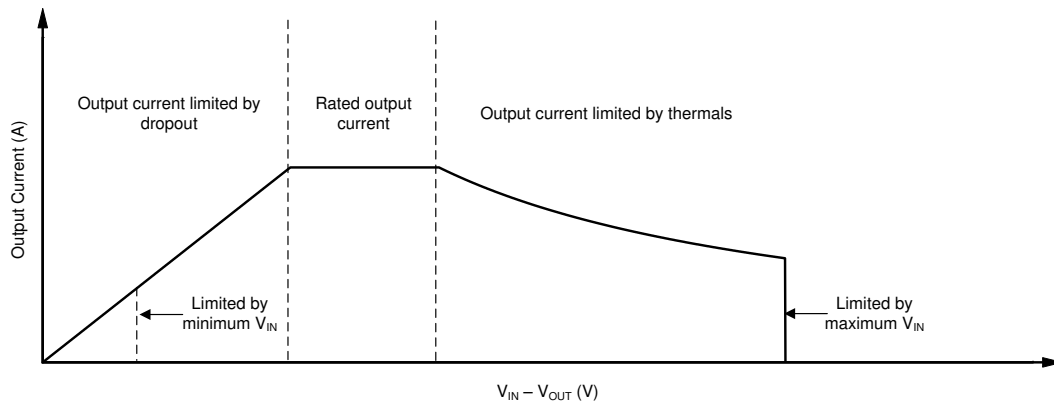

图 8-3. Region Description of Continuous Operation Regime
The operational area of an LDO is limited by the dropout voltage, output current, junction temperature, and input voltage. The recommended area for continuous operation for a linear regulator is given in 图 8-3 and can be separated into the following parts:
- The shape of the slope is depicted in the third region of Figure 8-3. The slope is nonlinear because the maximum-rated junction temperature of the LDO is controlled by the power dissipation across the LDO. Thus, when  $V_{IN} - V_{OUT}$  increases the output current must decrease.
图 8-3 shows the recommended area of operation for this device on a JEDEC-standard high-K board with a  $R_{\theta JA}$ , as given in the Thermal Information table.